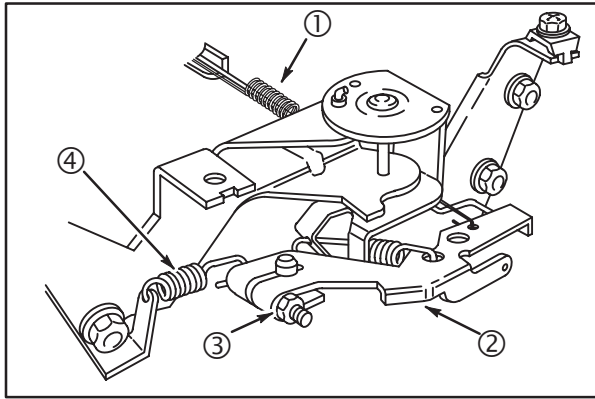

Fig. 5
1. Disconnect governor link and spring (1) at carburetor, **Fig. 5**.
3. Loosen governor lever nut (3).
4. Remove governor lever (2) from shaft.